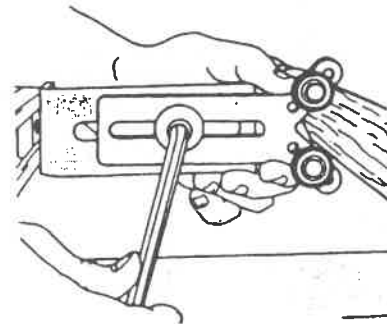

Figure 8
4. Adjust the bearings to fit the diameter of the spindle stock. See Figure 9 for which holes to use for the size spindle. Apply light pressure against the stock. Then use the 5/16" Allen wrench to tighten the cap screw (8) attaching the Y-support to the bracket (13), as illustrated in Figure 8.